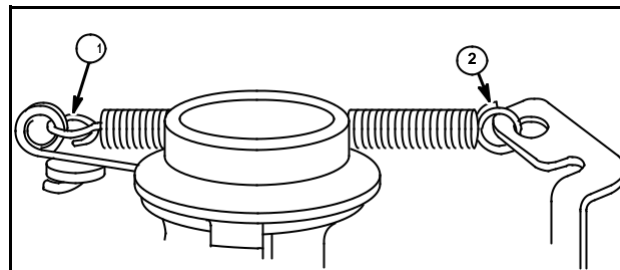

Fig. 8
DO NOT use a needle-nosed pliers or the end loops of the governor spring will be deformed. When the governor spring is correctly installed, the spring will be positioned as shown in Fig. 8, with loop (1) horizontal, end of spring pointing down, and loop (2) vertical, end of spring pointing toward engine.